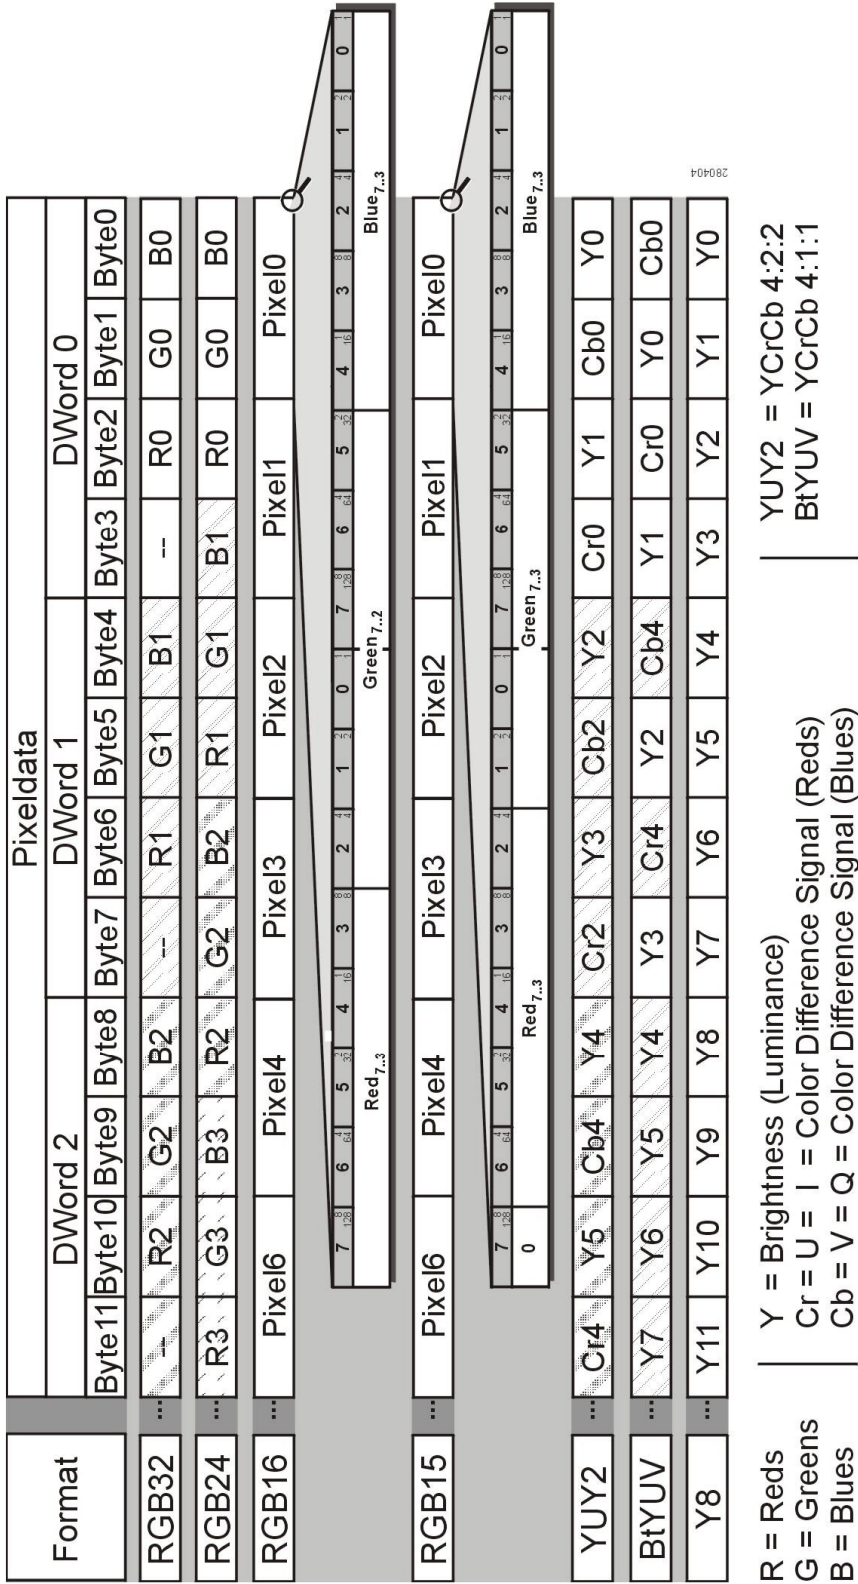

Figure 49: Color Format of the pciGrabber-4x4
The format is determined by the application. In general three formats can be distinguished, which again can be separated in different formats. Figure 49 shows how pixels can be stored in the memory for different formats.
- For *RGB32* 32-bit, a double word per pixel is utilized. The lowest Byte of each double word contains the information for the blue color (8-bit), the second Byte the green and the third Byte the red color information. The highest Byte contains no information and is used only to obtain a whole double word for one pixel: After each double word a new pixel begins (see Figure 49 that related information have same hatching). The alignment of double words might have the advantage, that fast access commands could be used. The number of colors is 16 million ($2^{38} = 16.777 \cdot 10^6$).
- *RGB16* has a reduced resolution of the color. This format requires five bit for the blue and red channel, and the green channel has 6-bits. The color depth is 65.536 ($2^5 \cdot 2^5 \cdot 2^6 = 65536$). One pixel needs 16-bits = 1 word. In Figure 49 the partitioning into three color channels of the word is depicted. The color information is arranged „left justified“; the lower bits are omitted, so that the color depth is reduced. The color depth of the green channel is twice of the two other channels. The RGB16-format corresponds to the color system of graphic cards with 65.535 colors.
- *RGB15*: The division corresponds to the RGB16-system, except that all color channels have the same color depth (each 5-bit=32 levels). Therefore we yield 32.818 colors. Altogether only 15-bits are necessary, so that the upper bit of a word is a stuffing bit and has the value 0 (see Figure 49).
- *BtYUV* : corresponds to YCrCb 4:1:1. Four pixels share one color information. The arrangement of the information in the memory is shown in Figure 49. Three double words are logically combined to one unit and contain the information for eight pixels. This is the value for the brightness for each pixel (Y0..Y7) and the color information of the first (Cb0/Cr0) and fifth pixel (Cb4/Cr4).